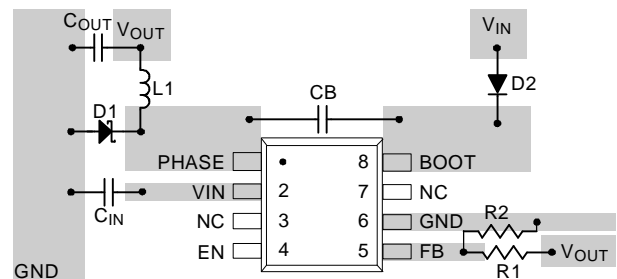

Figure 6
- } An example of PCB layout guide is shown in Figure 6 for reference.